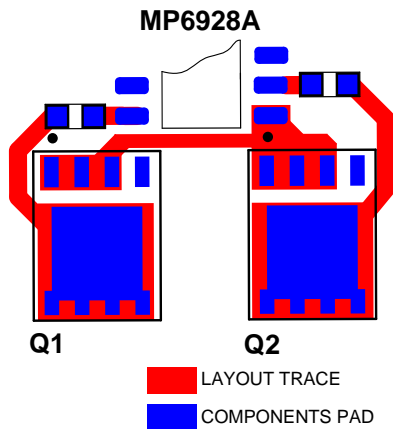

Figure 12: Layout Example for Sensing Loop and VDD Decoupling
Figure 12 shows a layout example of the MP6928A driving SOIC-8 package MOSFETs with two separate, small, sensing loops.
1. Place a minimum 1µF decoupling capacitor from VDD to PGND, and close to the IC for adequate filtering (see Figure 12).